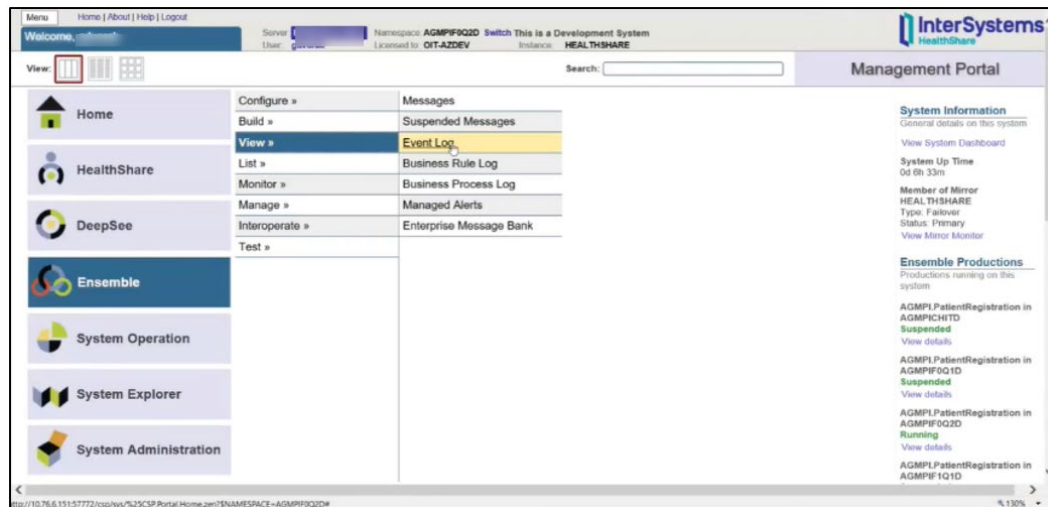

Figure 6-1: Open Event Log
1. Click on **Ensemble, View** and then **Event log** (Figure 6-1).